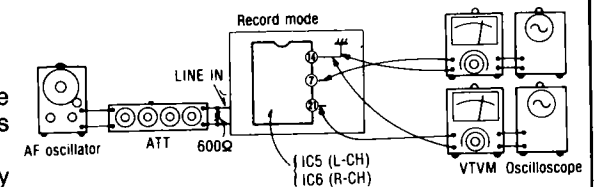

Fig. 18
- Make connections as shown in fig. 18.